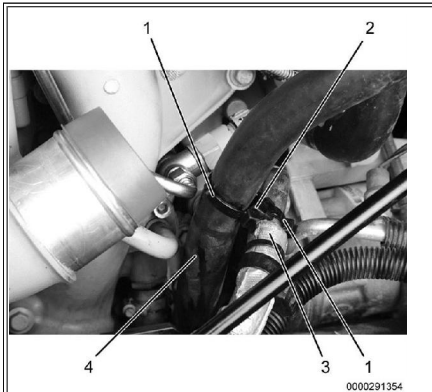

Figure 19: Surge Tank Hose.
1. Pull deaeration tank hose (Figure 19, Item 4) back to its original location towards deaeration tank until it clears turbocharger oil supply tube.
2. Using two tie straps (Figure 19, Item 1), and a swivel saddle (Figure 19, Item 2) secure deaeration tank hose to A/C suction line (Figure 19, Item 3).